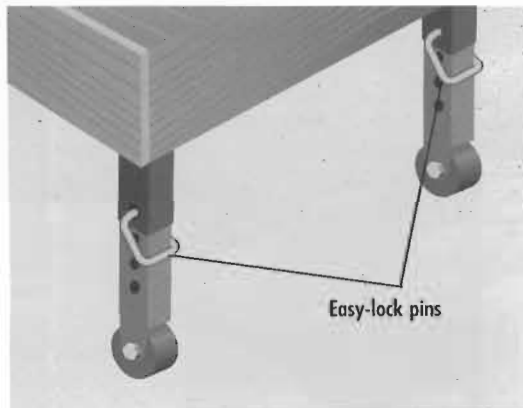

Figure 4
- Repeat steps 2 through 5 with the other elevation leg. Be sure to set the legs at the same level. Figure 4 shows the front elevation legs and easy-lock pins properly installed.